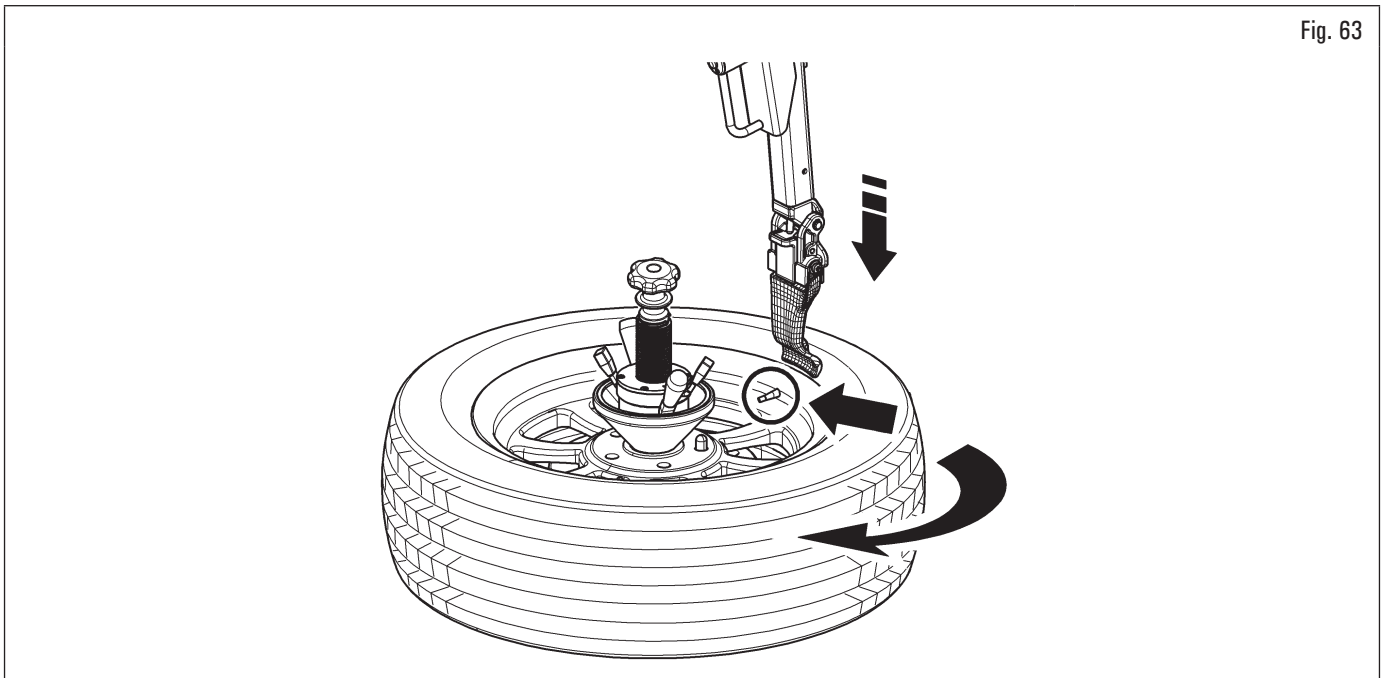

Fig. 63
1. Press the toolhead descent button (Fig. 6 ref. C (LOW)) and place it on the tyre without pushing. At the same time rotate the wheel until the valve is positioned next to the toolhead (see Fig. 63);